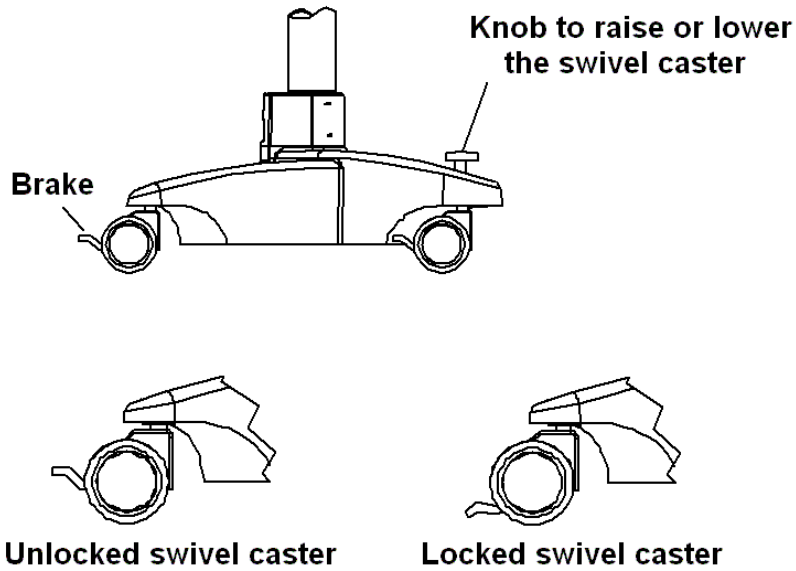
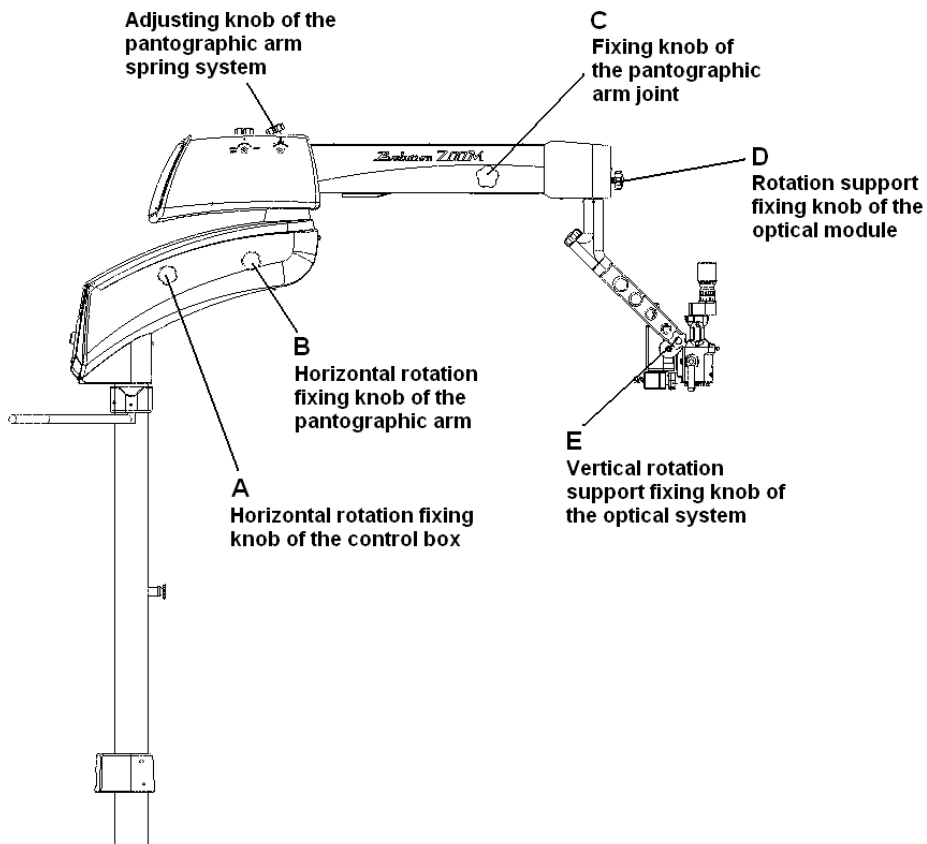

Figure 10: Swivel casters with brakes
Figure 11: Knob positions of the microscope
Before using the **Seiler Evolution Zoom Microscope**, one can move it from one place to another and change the position of the main modules to meet specific demands, since the followings instructions are considered (Figure 10 and Figure 11):
The level of the base can be set using the Knob to raise or down the swivel casters, so as to place them on a horizontal plane (Figure 10).
To adjusting the optical system to a specific position, make sure the swivel casters are properly locked (Figure 10). Then, loosen the knobs indicated and place the optics in the required position (Figure 11). After that, re-tighten the Knobs (do NOT over-tighten them).
To rotate the optical module vertically, release knob E. This may be slightly difficult, since the system is assembled with a preload to prevent the optical module from falling/rotating involuntarily (Figure 2 and Figure 11).
**ATTENTION:** A spring inside the pantographic arm ensures its smooth and precise movement. The spring's tension is NOT pre-set in the factory, because it must be released for transportation. When assembling the microscope, this spring must be set by its adjustment knob (Figure 11). Where accessories are added to the optical module, the weight to be balanced by the pantographic arm is increased, so the knob must be turned anti-clockwise. Become aware of eventual downward movement of the optical system, especially when adding accessories.
- Loosen the knob of the pantographic arm joint (Figure 11), then put the optical module in a distance from the working that are approximately the focal length of the objective lens in use. Re-tighten the knob to fix the pantographic arm.